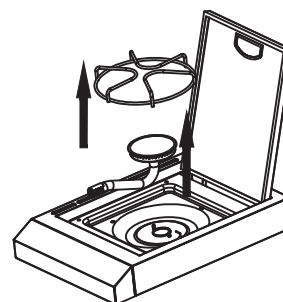

Figure 3
- 3) Replace the LPG injector carefully as shown in Figure 3.